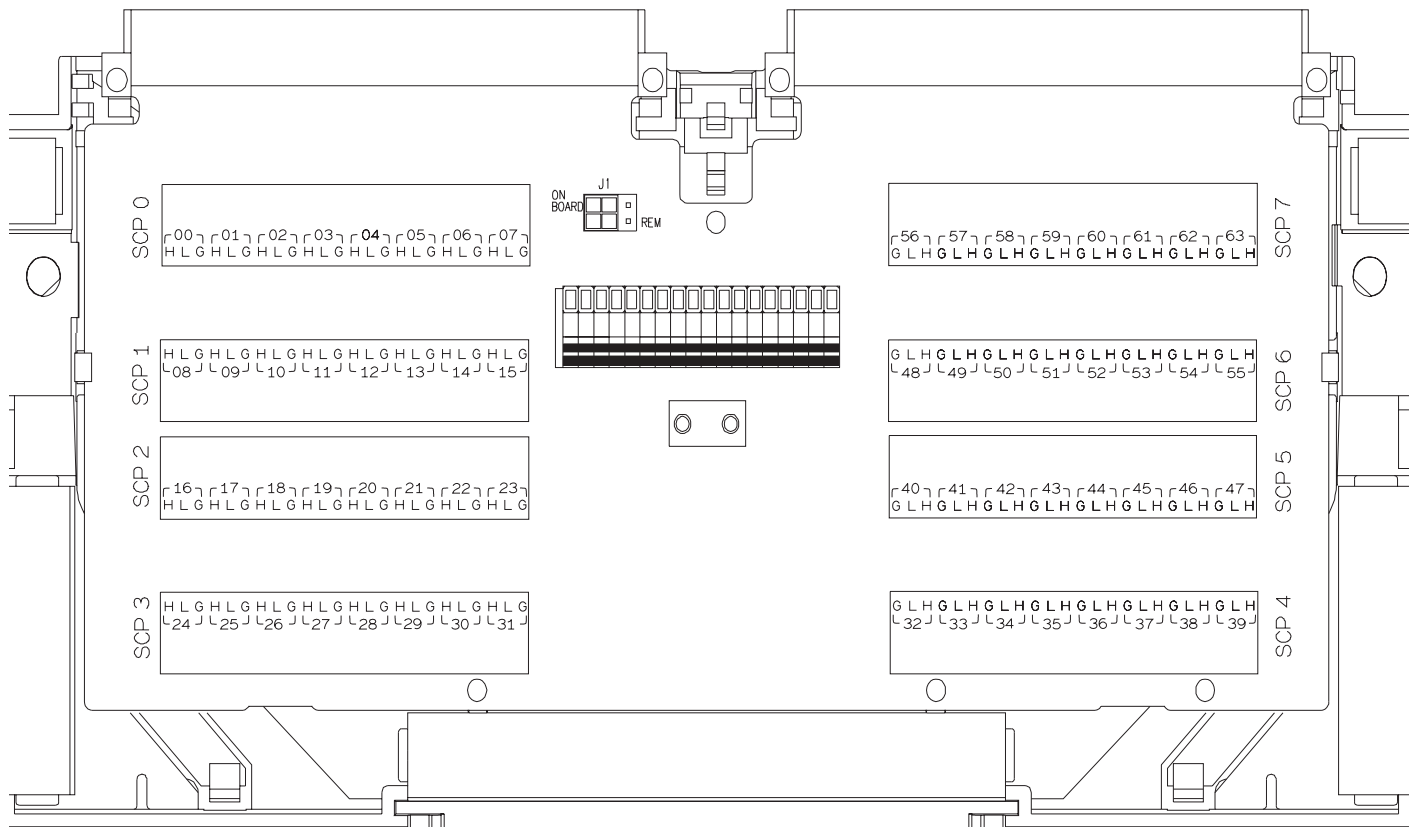

Figure 1: VT1501A C-Size Terminal Module Connections
- For E1413C and above Terminal Modules, use stickers for VT1501A SCPs. The connections are shown in Figure 1.
Open Transducer Detection (OTD) is controlled by bits in the Card Control Register. For more information on OTD see Figure 1.